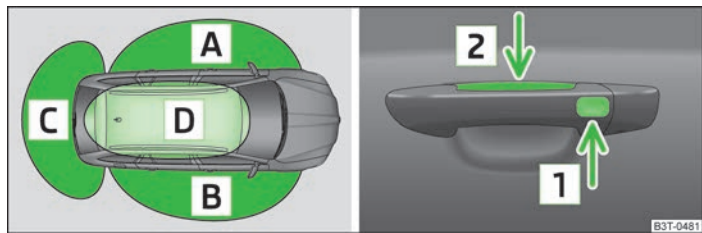

Fig. 13 KESY: Designation of the areas and unlocking/locking the vehicle
- Grab the door handle of the front door or cover the sensor **2** » Fig. 13 with the whole palm of your hand.
- Touch the sensor **1** » Fig. 13 with your fingers.
- Touch the sensor **1** » Fig. 13 twice within 2 seconds with your fingers.
If a valid remote control key is located in the area **A** » Fig. 13 or **B** of the vehicle, it is possible to unlock the vehicle via the relevant door of the area in which the key is located. In the area **A**, the vehicle can be unlocked by the handle of the front left door, in the area **C**, the boot lid can be unlocked.
After locking the vehicle by means of the sensor **1** » Fig. 13, it is not possible to unlock the vehicle using the sensor **2** for 2 seconds. Pull on the handle to check if the vehicle is locked.
- When locking/unlocking the vehicle using the sensors 1 » Fig. 13 or 2 do not use gloves or other objects that might prevent the hand from coming into direct contact with the sensor.
If the key, which was used to lock the vehicle, remains in the vehicle in the area D » Fig. 13 on page 32 after locking and closing all of the doors including the boot lid, the protection against inadvertently locking the key in the vehicle is activated and the vehicle unlocks itself again.
If the vehicle is not unlocked within 60 or 90 hours, the sensors 1 » Fig. 13 on page 32 and 2 in the handle of the front passenger's door are automatically deactivated.
- Unlock the driver's door using the sensor 2 » Fig. 13 on page 32.